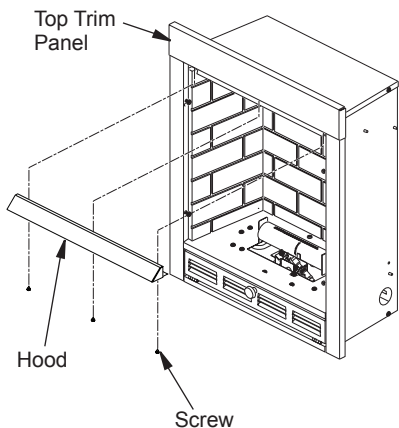

Figure 3 - Assembling Hood
5. Place hood under top edge of firebox opening. Use 3 screws from hardware kit to mount hood to firebox (see Figure 3).